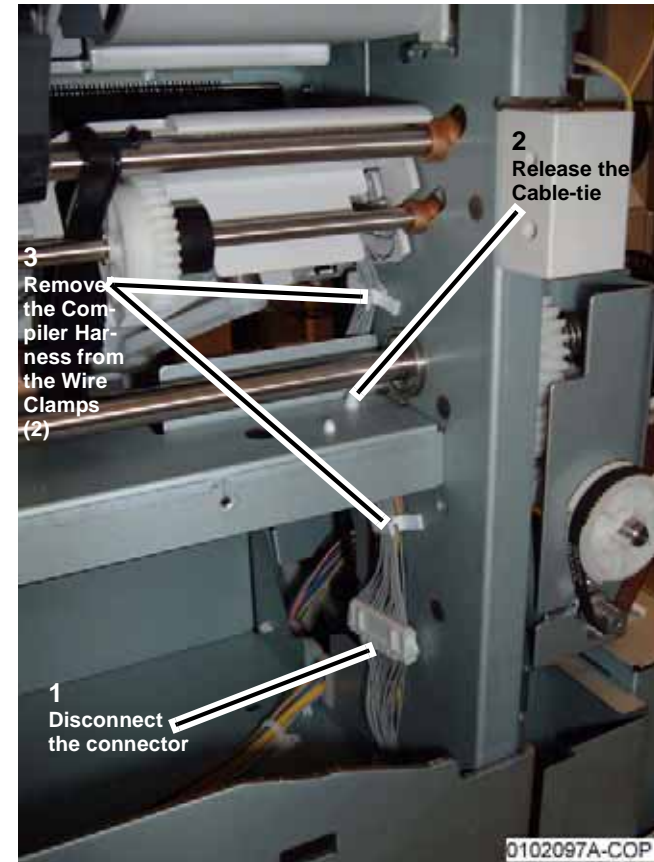

Figure 2 Disconnecting the Compiler Harness
6. Disconnect the Compiler Harness (Figure 2).